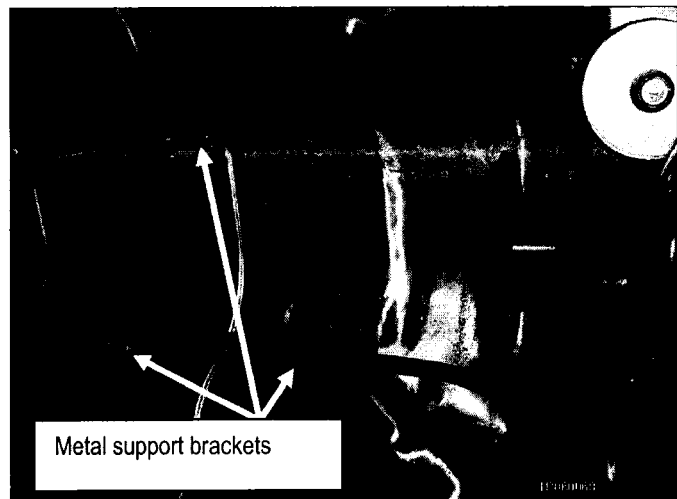

Figure 21
- b. Remove the cables from the metal support brackets (see Figure 21).